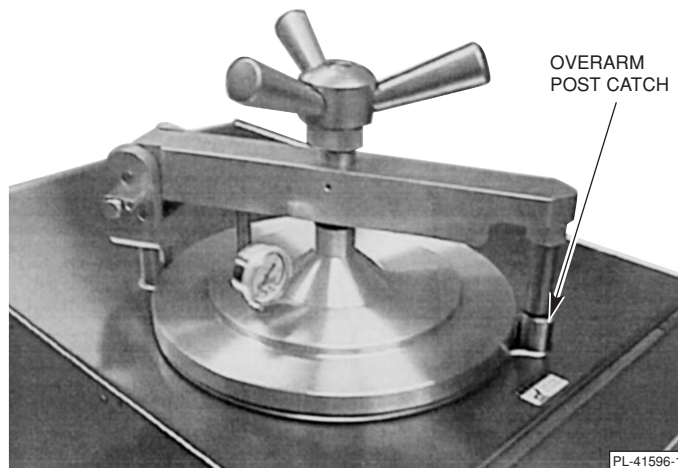

Fig. 9
5. When the desired amount of food is placed in the pressure fryer, give the basket one more swirl in the oil. Close the lid. **Make sure the lock post is fastened in the overarm post catch (Fig. 9).** Tighten the handle.